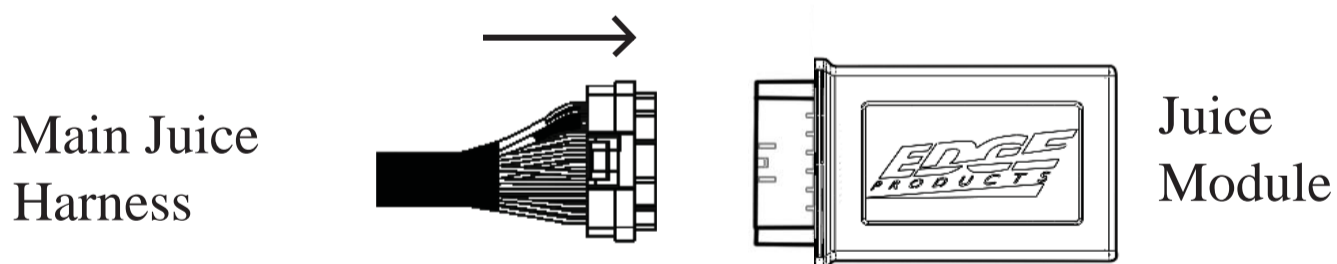

Figure 1 - Juice Module
1. Plug the “Main Juice Connector” into the “Juice Module” receptacle. (Figure 1)